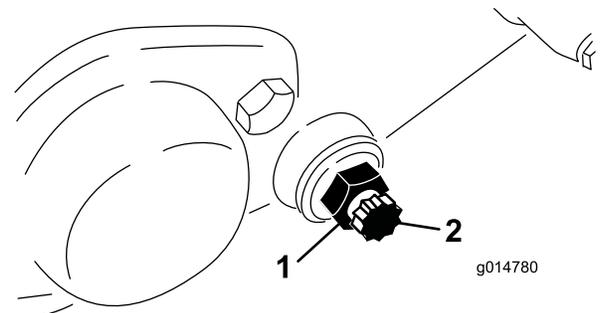

Figure 55
4. Remove each bedbar bolt allowing the bedbar to be pulled downward and removed from the machine. Save the 2 nylon and 2 stamped steel washers on each end of the bedbar (Figure 55).